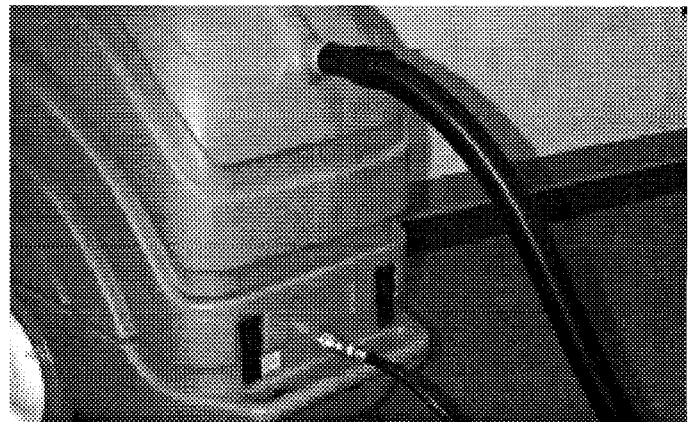

Fig. 4
4. Attach vacuum and solution hose to hose connectors at front of machine then to floor or hand tool. (Figure 4)